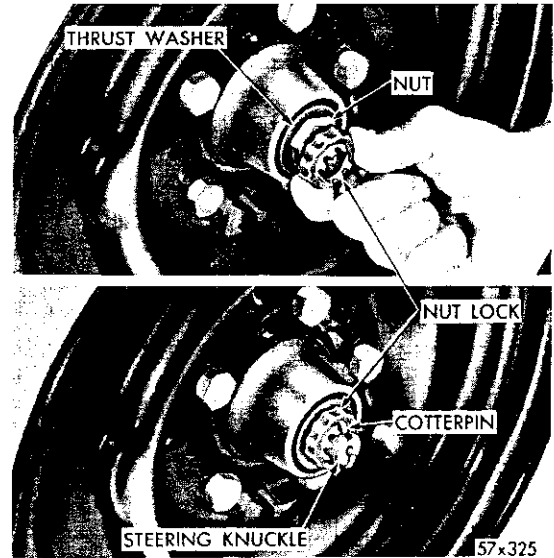

Fig. 9—Adjusting Front Wheel Bearings
(2) Position the nut lock on the nut with one pair of slots in line with the cotter pin hole (Fig. 9).
(3) Back off the lock and adjusting nut to the next slot.
(4) Install the cotter pin.